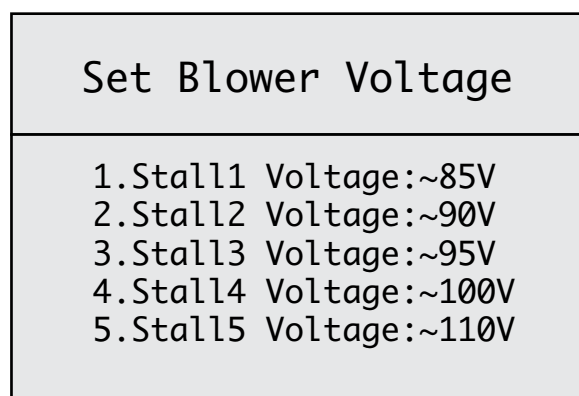

Figure 26
2. Using the SCROLL DOWN key, move down to option 4: "Set Blower Voltage". Press ENTER again to move into the "Set Blower Voltage" screen. **SEE FIGURE 26.**
4. Using the SCROLL UP or SCROLL DOWN keys, select the appropriate voltage. **NOTE: Voltage can be decreased or increased only in increments of five (5).**